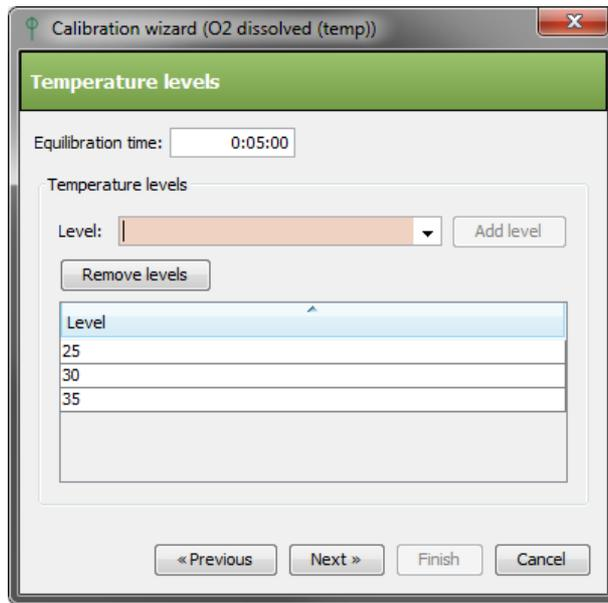

Fig. 31: O2 temperature levels step
- Fill the desired temperature levels and temperature equilibration time (Fig. 31). The equilibration time specifies how long the temperature must be stabilized before the O₂ is measured. Stabilization means that the temperature it is within 0.5°C range.